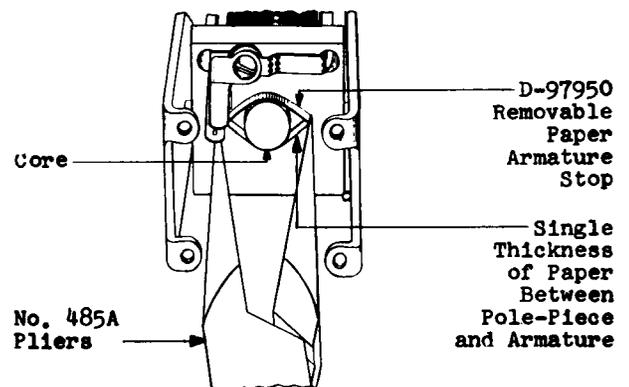

Fig. 6 - Method of Applying Armature Stop
- (4) Remove the armature as covered in 3.03(1). Place a D-97950 removable paper armature stop between the tips of the jaws of the No. 485A pliers in such a position that it can be readily inserted within the frame of the relay. Then, exerting a slight pressure, bow the bronze strip so as to form an opening between the single thickness of the paper and the bronze strip, sufficiently wide to permit the removable stop to be slipped on the core of the relay as indicated in Fig. 6.
(5) If necessary, adjust the removable paper armature stop so that it rests snugly against the spoolhead in the position shown in Fig. 6.
(6) Replace the armature in position and tighten the screws holding the pole piece (frame) to the spoolhead. Remount the faceplate on the relay.
(7) Check all mechanical and electrical requirements and make adjustments as required. Then remount the cover on the relay.